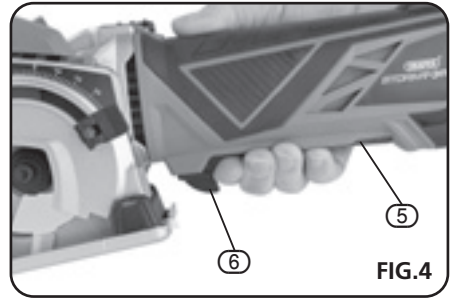

FIG.4
9.1 SWITCHING ON THE PLUNGE SAW - FIG. 4
Push the lock-off button (6) forward (Fig 4), depress On/Off switch trigger (5) inwards and keep it pressed at the same time.